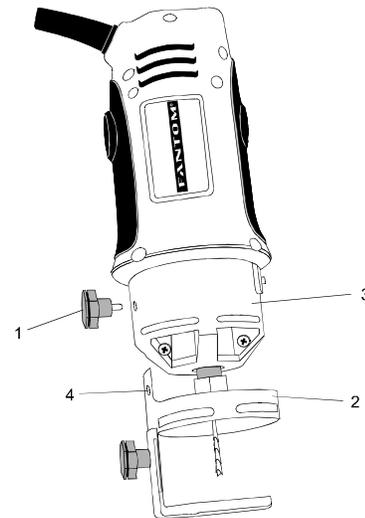

Fig. 4
1. Remove accessory locking knob (1) from the base of the spin saw motor housing (see Fig. 4). Slide freehand sole plate mounting bracket (2) onto the bottom of motor housing (3) until the mounting hole (4) lines up with the hole in the motor housing. NOTE: The tab on the side of the sole plate mounting band must be inserted into the matching slot in the motor housing.
2. Install freehand sole plate as shown in Fig. 4.